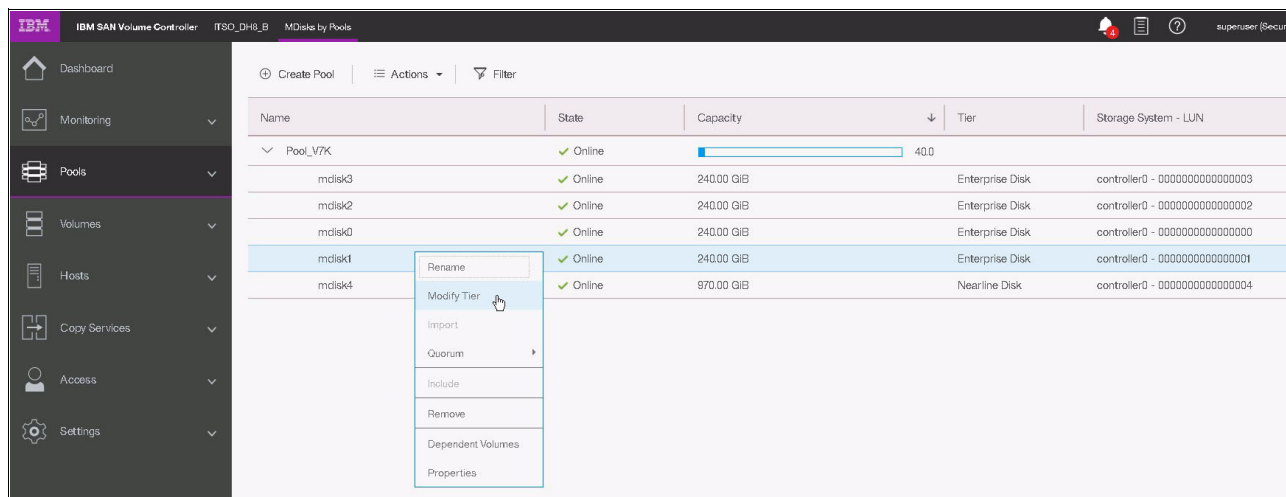

Figure 7-4 Change the MDisk tier
2. Right-click the wanted MDisk and select **Modify Tier** (Figure 7-4 on page 313).